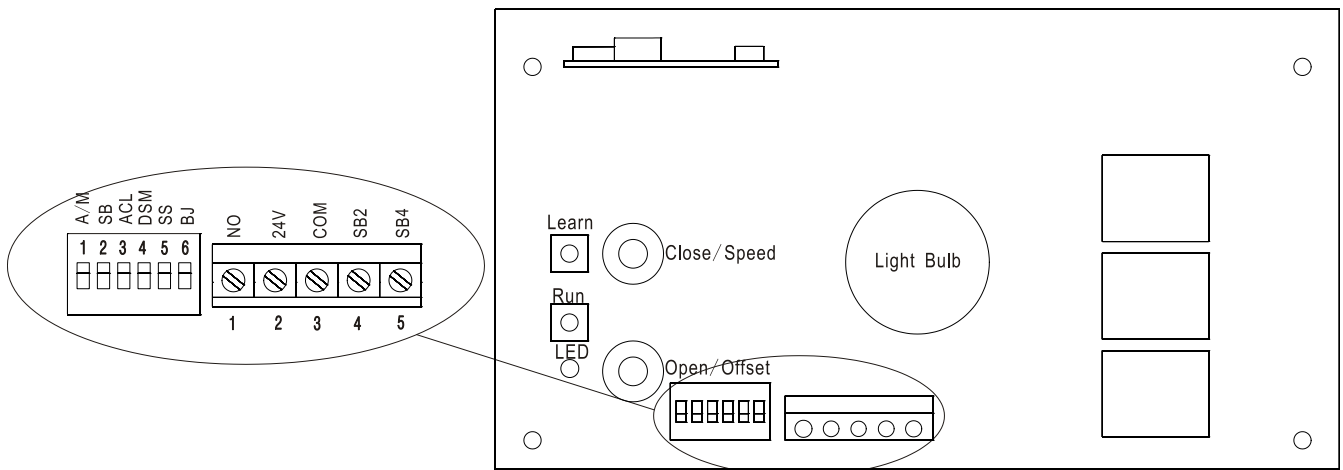

Fig. 16
- ii. Select Dip Switch Nos.2 (SB) & 3 (AC) to the “ON” position. (Fig.16)
- Select Dip Switch No.6 (BJ) to the “ON” position. (Fig.16)
- The Dip Switches located on the Control Board (Fig.16) enable or disable specific functionality.
- Select the Dip Switches as required to enable the desired functionality (Fig.16)
- Select Dip 4 (DBM) to the “ON” position. (Fig.16)